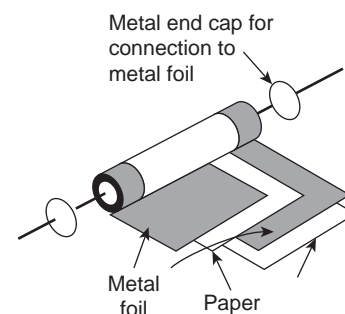

Figure 8.18
3. **Paper capacitors.** A typical paper capacitor is shown in Fig. 8.18 where the length of the roll corresponds to the capacitance required.